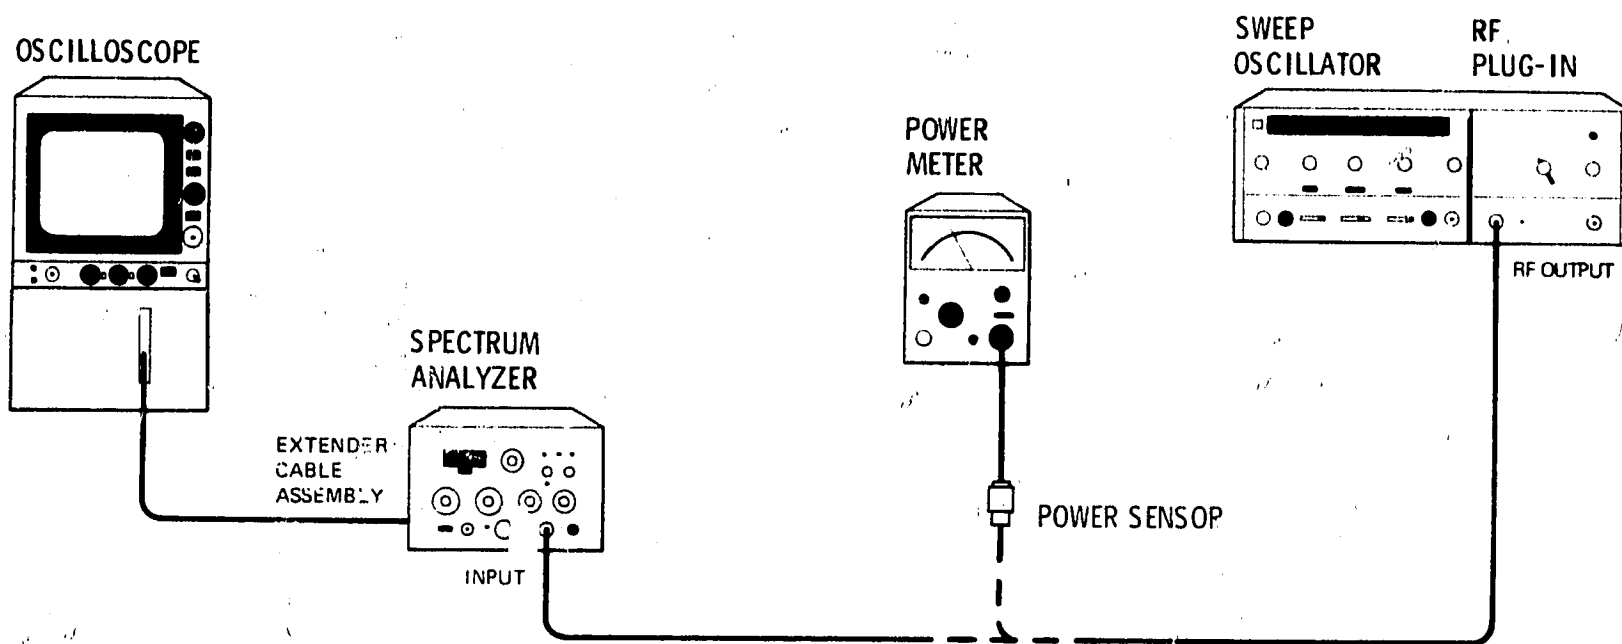

Figure 5-3. Flatness Adjustment Test Setup
2. Connect equipment as shown in Figure 5-3, connecting thermistor mount to RF plug-in. Set RF power to -10 dBm.